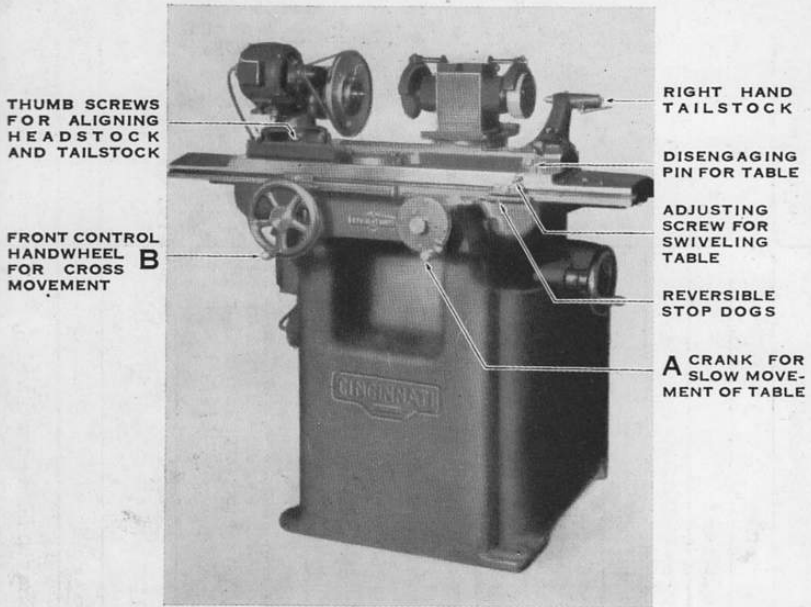
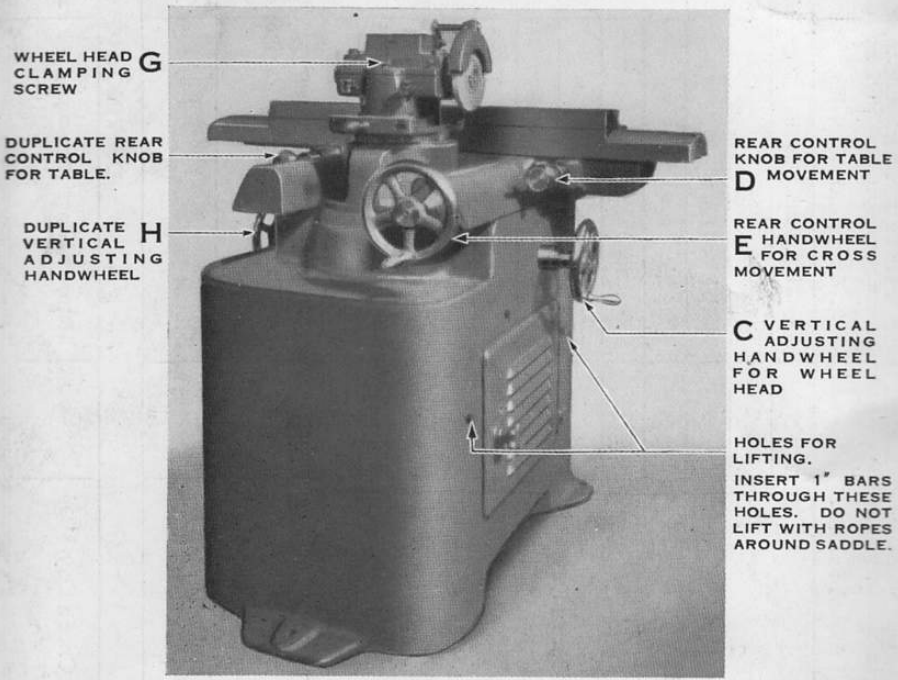

Fig. 2
Fig. 3
**Table Feed.** Crank "A" (Fig. 2), through a 10 to 1 differential gearing, moves the table from left to right when turned in a clockwise direction. One turn of the crank moves the table  $\frac{3}{8}$ ". Rear control knob "D" (Fig. 3) is connected directly to the pinion which engages the table rack, and cannot be used until the differential crank "A" is disengaged. To disengage this crank, pull out the knob in the centre of the crank housing.